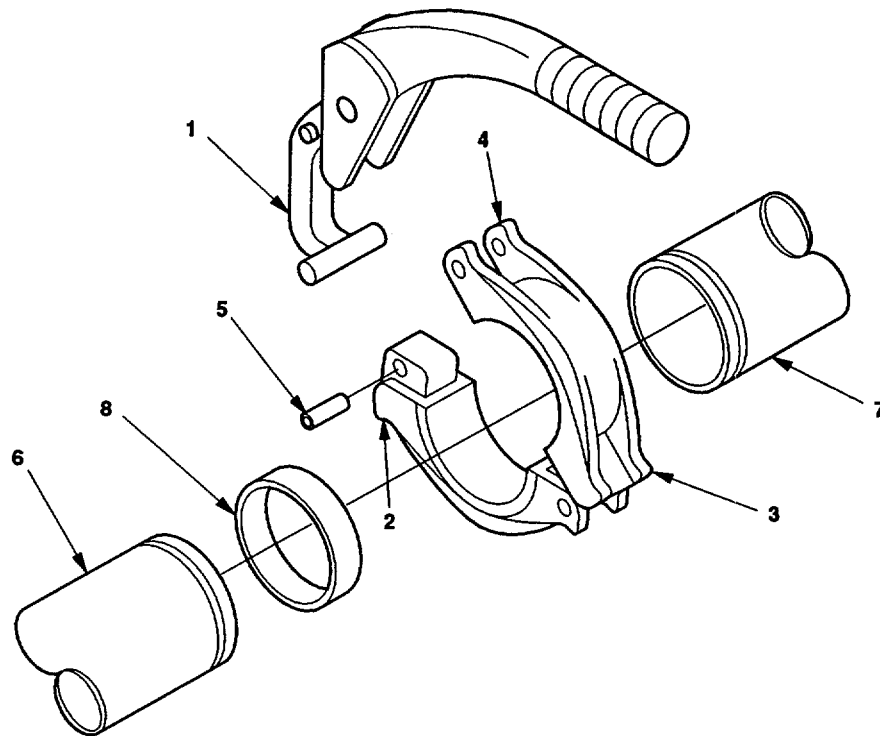

Figure 2-13. Grooved-End Pipe Quick Disconnect Coupling Clamp.
- f. Tighten nuts (1) alternately and equally until coupling halves (4) are firmly together.
2.3.3 Grooved-End Pipe Quick Disconnect Coupling Clamp Removal and Installation. Remove and install grooved-end pipe quick disconnect coupling clamp (Figure 2-13) as follows:
- a. Position lower portion of grooved-end pipe quick disconnect coupling clamp tool (Figure 2-13,1) under cradles (2) on lower side of grooved-end pipe quick disconnect coupling clamp (3).
- b. Position top portion of grooved-end pipe quick disconnect coupling clamp tool (1) over cradles (4) on upper side of grooved-end pipe quick disconnect coupling clamp (3).
- c. Pull handle of grooved-end pipe quick disconnect coupling clamp tool (1) over grooved-end pipe quick disconnect coupling clamp (3) and push pin (5) from grooved-end pipe quick disconnect coupling clamp (3).
- d. Remove grooved-end pipe quick disconnect coupling clamp tool (1) from grooved- end pipe quick disconnect coupling clamp (3).
- e. Open and remove grooved-end pipe quick disconnect coupling clamp (3) from grooved fittings (6 and 7).
- f. Remove gasket (8) from grooved fittings (6 and 7).
- g. Check gasket (8) for damage. If gasket (8) is damaged, replace it.
- a. Apply thin coat of non-petroleum silicone lubricant (item 5, appendix E) to gasket lips and outside of gasket (8).